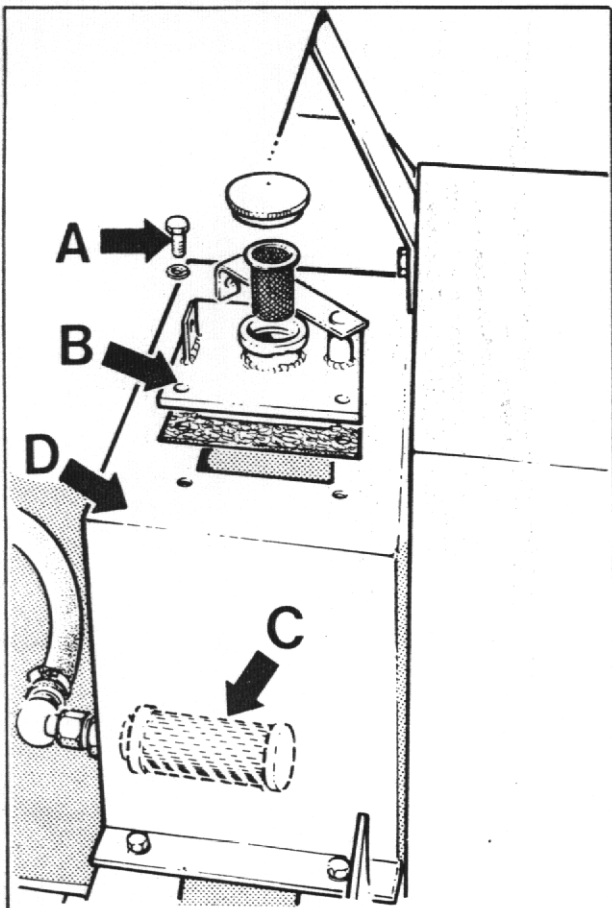

FIG. 9
2. Check that hydraulic filter is not blocked. (See fig. 9))
- a) Remove the four setscrews (A) that secure the filler cap assembly (B) and remove assembly.
- b) Unscrew suction filter (C) from inside tank (D) and wash in white spirit. Dry with moisture-free compressed air.